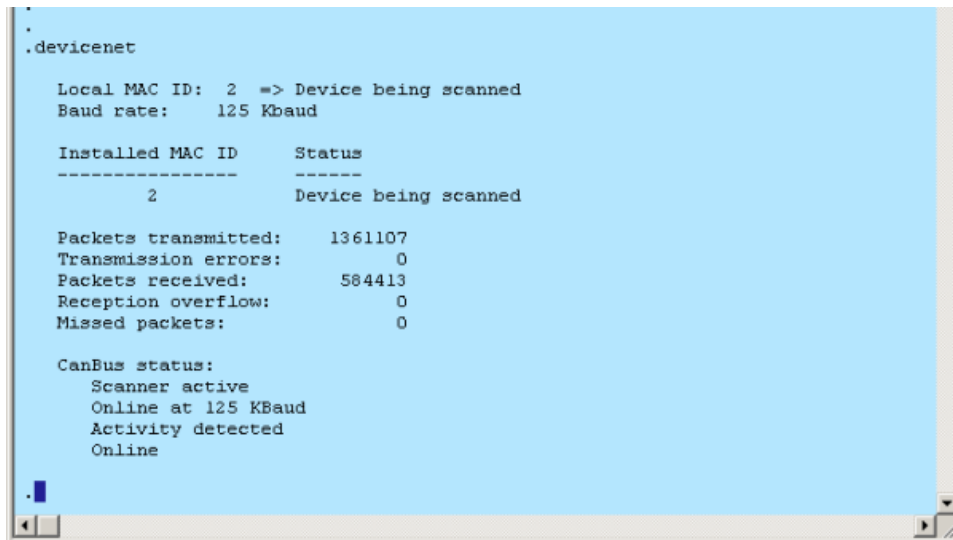

Figure 19. DeviceNet Command Executed After Configuration
1. Once you've configured these settings, type "devicenet" at the monitor window. A screen similar to Figure 19 will be displayed.